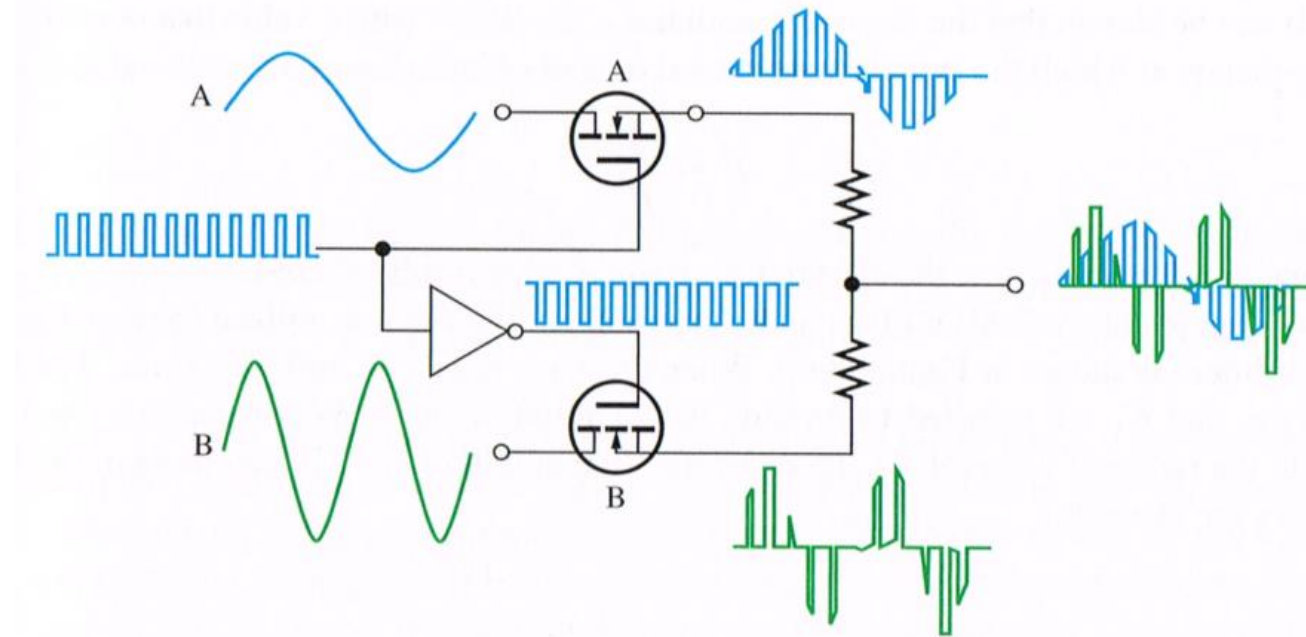

FIGURE 4-57 The analog multiplexer is alternately sampling two signals and interleaving them on a single output line.
- Fig. 4-57 is vb van 2-kanaals analoog sampling multiplexer